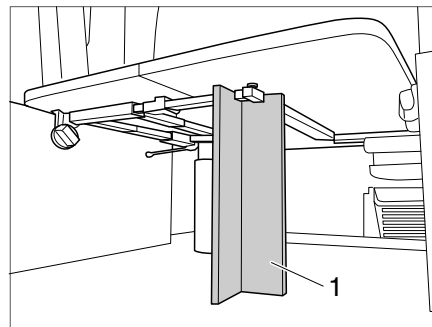

Fig. 116 Wooden support
- Slide the table top onto the support edge and place the wooden support (Fig. 116,1) under the table.